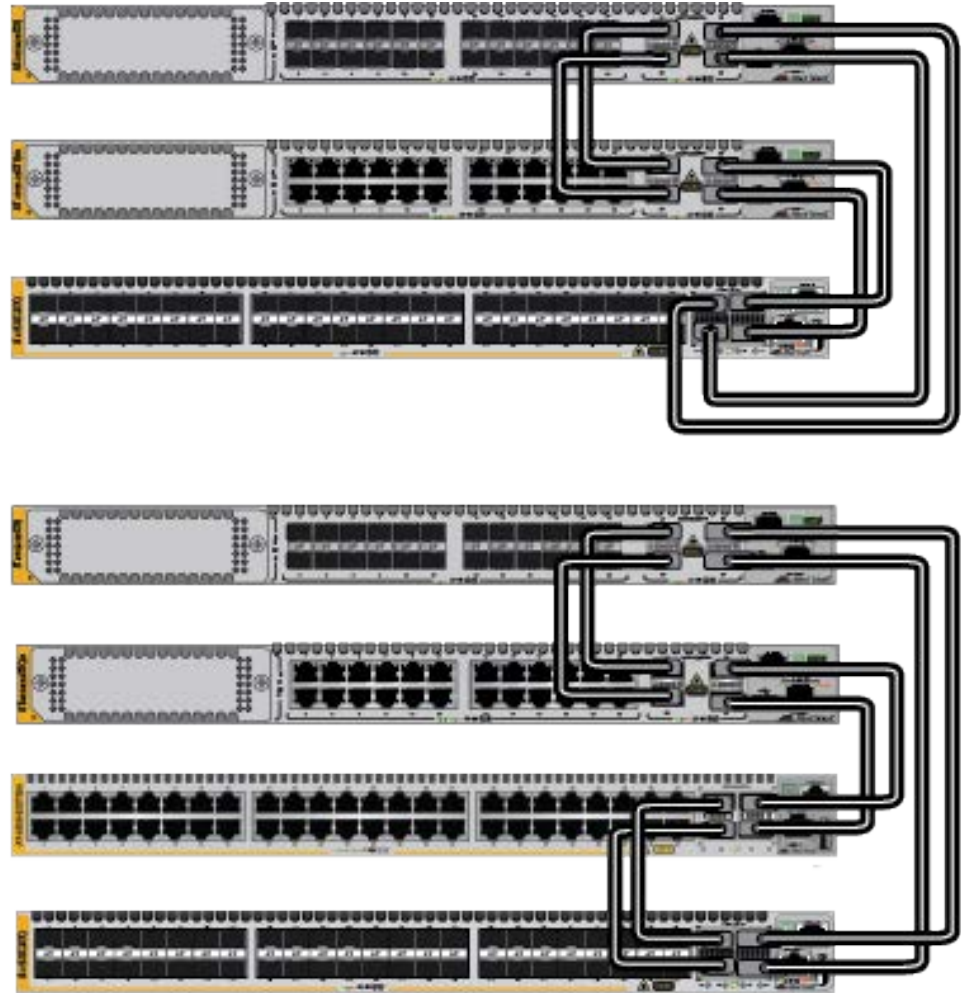

Figure 34. Stack Trunk Examples of Three or Four Switches with 40G Links
- ❑ To build stacks of three or more switches, Allied Telesis recommends using all four ports. Examples are shown in Figure 34. Please note how the top and bottom switches are connected to form a loop in the trunk.